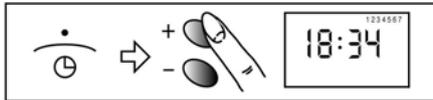

Fig.6
9 - Mode selector switch (see Fig.6 and Table 2 below)
1. Turn the mode selector switch to the  position (see Fig.6)